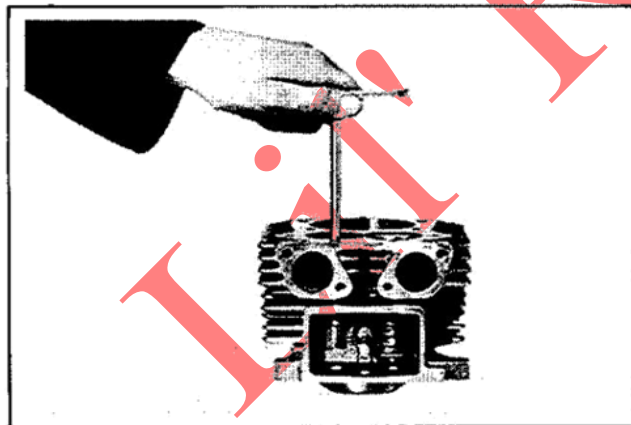

Figure 10-8. Reaming Valve Guide.
- Valve guides are often slightly compressed during insertion. Use a piloted reamer (Refer to Section 2, Special Tools) and then a finishing reamer to resize the guide bore to .3125". Refer to Figure 10-8.